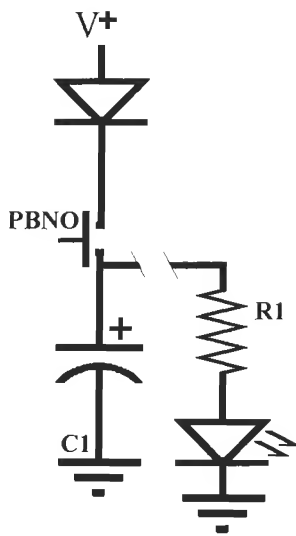

Figure L8-23
3. a. Disconnect the wire indicated in Figure L8-23 between the capacitor and R1.